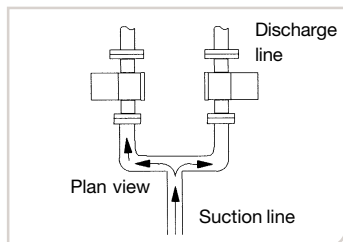

Fig. 12.1.1a Avoid common suction lines
- Avoid suction lifts and manifold/common suction lines for two rotary lobe pumps running in parallel, as this may cause vibration or cavitation (see fig. 12.1.1a).